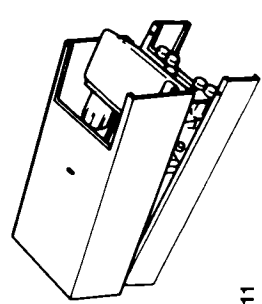

Fig. 11
**5.3.2** Slightly lift the casing and slide it gently towards the top of the appliance to disengage the case from the top suspension hooks. (Fig 11)